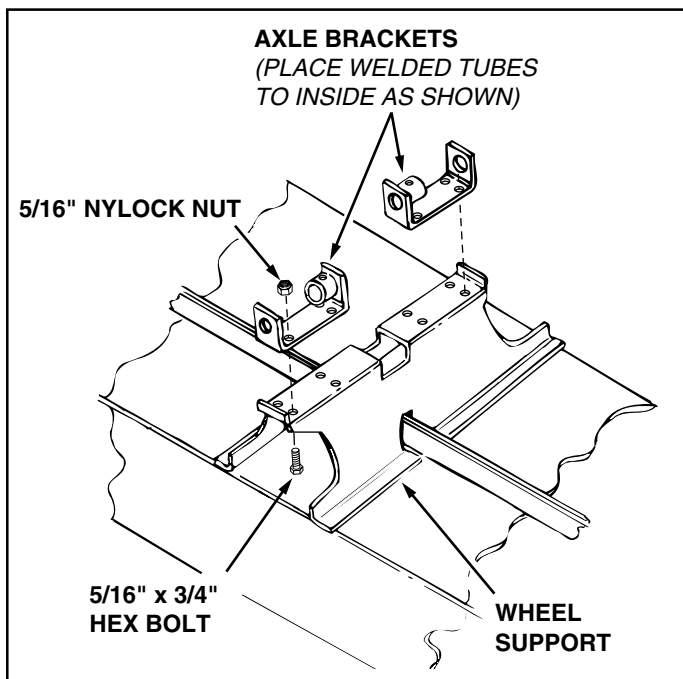

FIGURE 8
14. To prevent accidental tipping during the following assembly procedures, lower the cart to rest upside down on its top flanges, so that the wheel support is facing up. See figure 8.
15. Assemble both axle brackets to the wheel support using eight 5/16" x 3/4" hex bolts and 5/16" nylock nuts. Place the welded tubes to the inside. See figure 8.